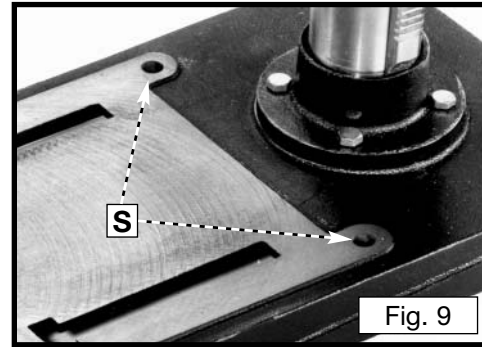
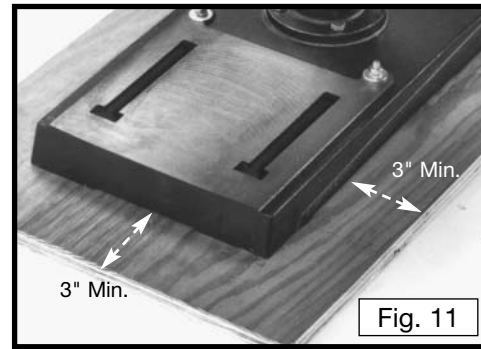

Fig. 9
Fig. 11
If, during operation, the machine has a tendency to tip over, slide, or walk on the supporting surface, secure the machine base to the supporting surface with an M8x1.25x125mm carriage head screw, 8.5mm flat washer, 8.5mm lock washer, M8x1.25 hex nut through the two holes (S) Fig. 9 located in the machine base.
- Start with a 21" x 28" or larger piece of plywood. Drill two 3/8" diameter holes (B) Fig. 11 that match the mounting holes (S) Fig. 9 of the drill press base.
- The supporting board must extend a minimum of 3" beyond each edge of the drill press base (Fig. 11).